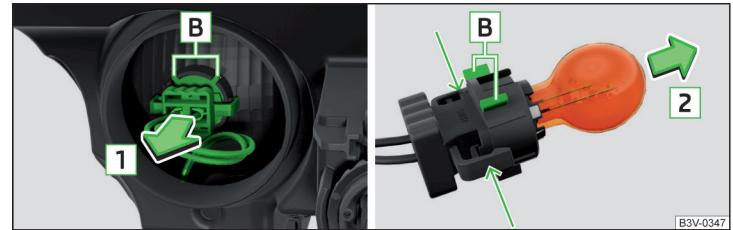

Fig. 263 Changing the bulb for the turn signal light
- » Remove the bulb holder with the bulb by jiggling it out in the direction of the arrow **1** » Fig. 263.